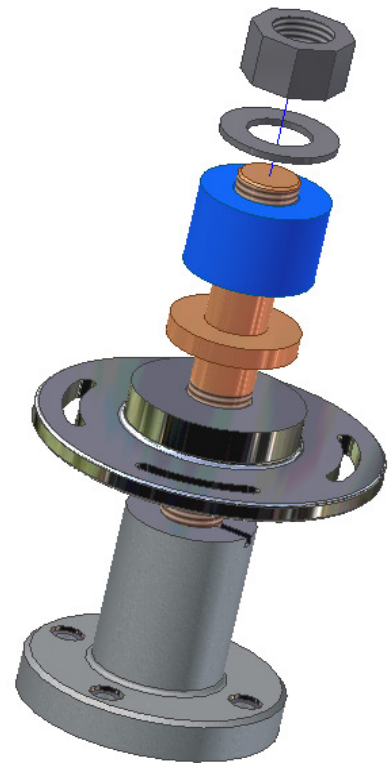

Figure Step 11
Step 11 Click the Right Rotate icon twice. This will rotate the model 20 degrees to the right. Click the Up Rotate icon once. This will rotate the model 10 degrees upwards. (Figure Step 11)